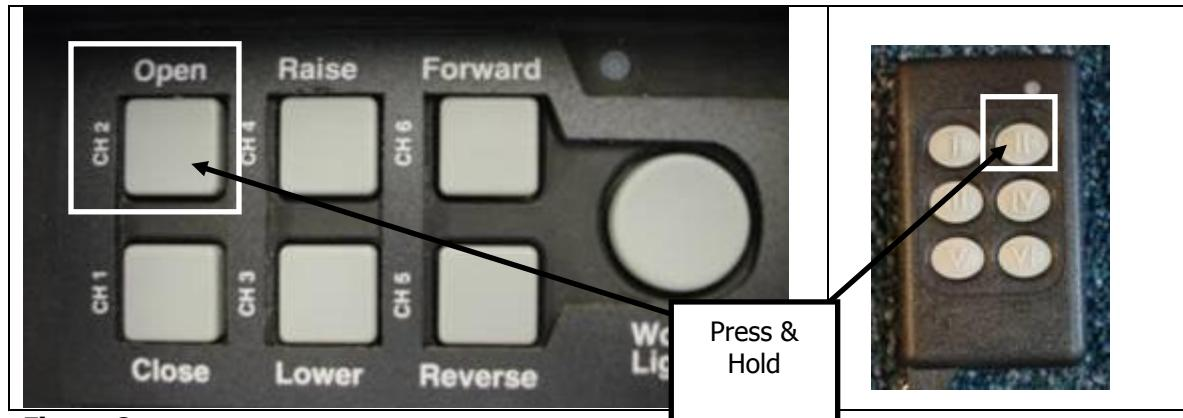
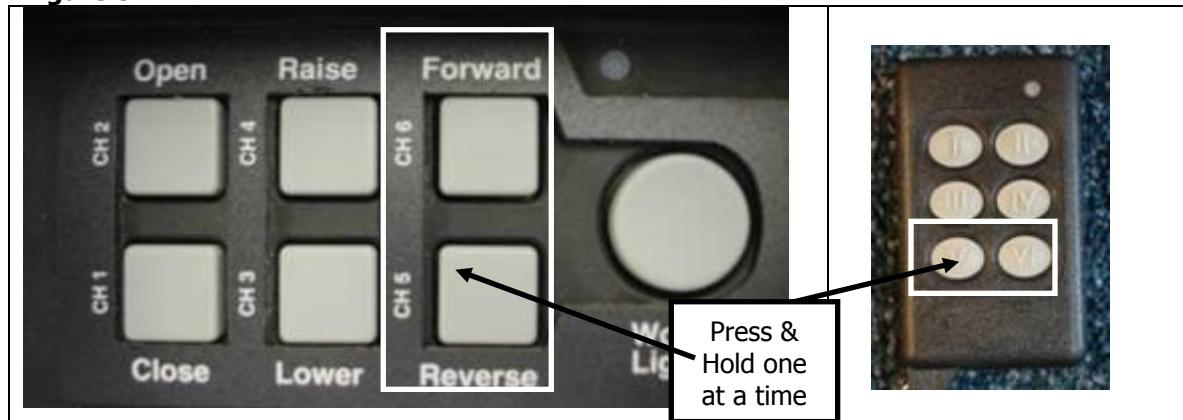

Figure 8
Figure 9
4) Wind the tarp in far enough to clear the container as it is dumped or unloaded. To wind the tarp press & hold button 2 on your control box or key fob (see Fig. 8). On non remote control systems there will be a switch to operate your tarp in and out. If you have sliding pivots you may wish to adjust these also to give more container clearance. Buttons 5 & 6 on your control box or key fob will operate your sliding pivots for and aft (see Fig. 9).